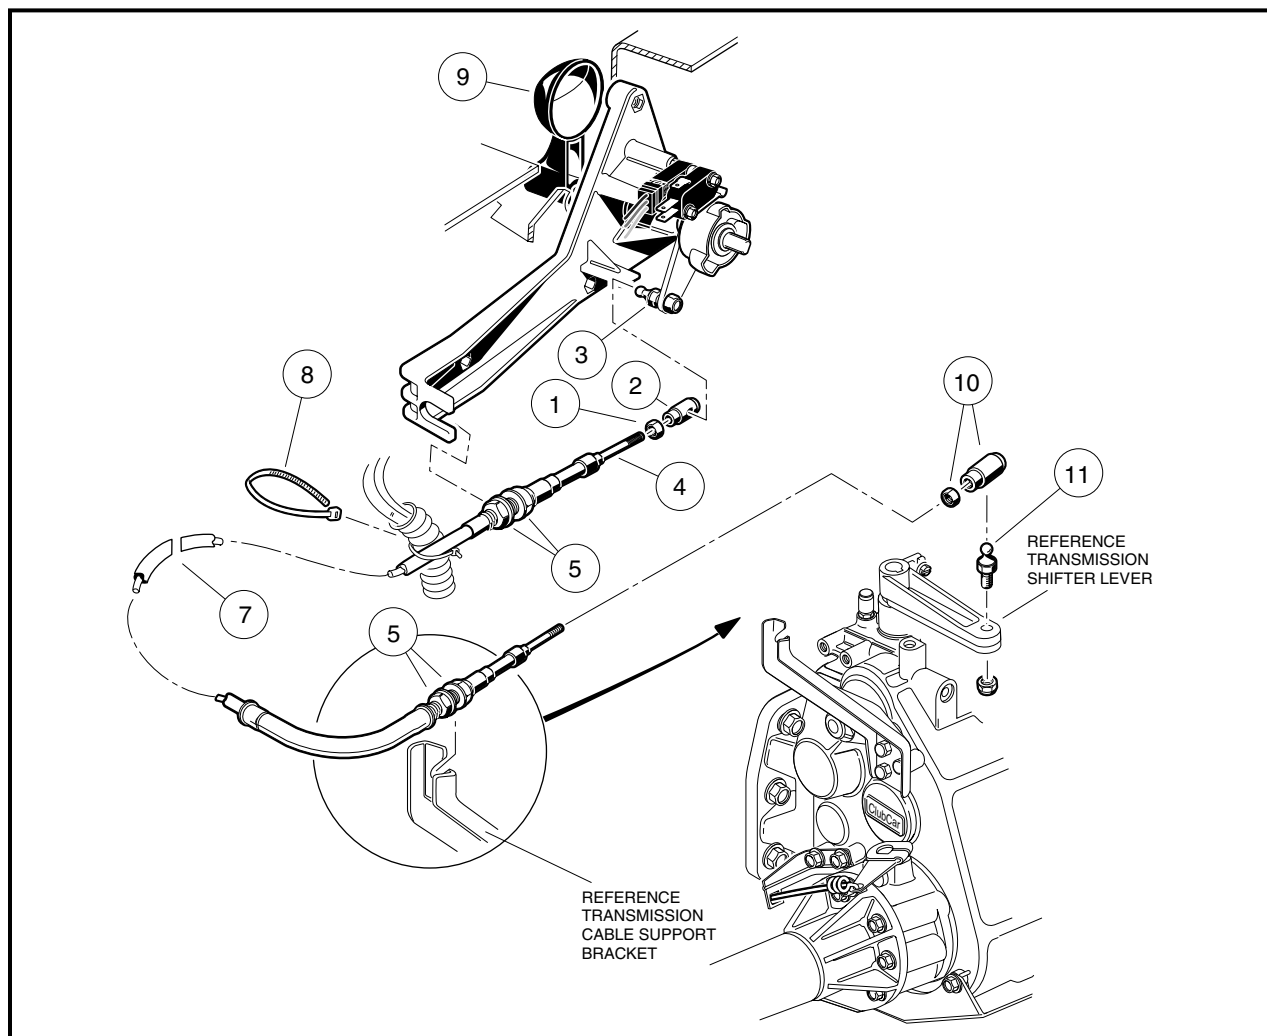

Figure 16-62 Forward/Reverse Shifter Cable
1. Remove the ball joint socket (2) from the Forward/Reverse shifter assembly ball stud (3) (**Figure 16-62, Page 16-24**).
2. Remove the ball joint socket (10) from the shifter arm ball stud (11) on the transaxle.
3. Loosen the retaining nuts (5) on both ends of the cable and remove the wire tie and cable.
2. Secure the cable with retaining nut (5) on each side of the shifter cable support bracket at the transaxle (**Figure 16-62, Page 16-24**) and tighten nuts to 22 ft-lb (29.8 N·m).
3. Secure the cable with retaining nut (5) on each side of the shifter cable support bracket at the Forward/Reverse assembly and tighten nuts to 22 ft-lb (29.8 N·m).
4. Install the ball joint socket (10) on the shifter lever ball stud (11) on the transaxle.
5. Install the ball joint socket (2) on the Forward/Reverse shifter assembly ball stud (3).
6. Install wire tie (8) to secure wire harness to cable at the support bracket near the Forward/Reverse shifter assembly. **See following WARNING.**
Place the shifter lever in the NEUTRAL position (straight up) (**Figure 16-61, Page 16-23**). For minor adjustments, the nut (1) may be loosened and the ball joint socket (2) rotated to get the proper adjustment (**Figure 16-62, Page 16-24**). See following **CAUTION**.
For major adjustments, the cable retaining nuts (5) must be loosened and adjusted. When the cable is properly adjusted, with the Forward/Reverse handle (9) (**Figure 16-62, Page 16-24**) in the NEUTRAL position, the shifter lever of the transaxle will also be in the NEUTRAL position (**Figure 16-61, Page 16-23**). Retighten nuts to 22 ft-lb (29.8 N·m).